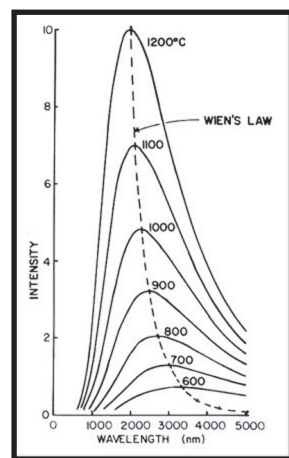

Figure 1.
And one value of writing this equation is, we can define an object that is a *perfect absorber of incident radiation*—a **blackbody**. Let me re-emphasize the *blackbody's* characteristics in different words—*radiation from any angle and at any wavelength is absorbed with zero reflection and zero transmission*. Of course, if absorption was all a *blackbody* did, its temperature would become infinite and that can't happen. So, while it's a perfect absorber, it is also a perfect emitter. It's a neat concept made even neater because it lets some smart people predict the energy emission spectrum (intensity vs wavelength) and show it depends *only* on the body's temperature. (see figure 1)
- Don't know the glass-type but all glasses transmit some IR. Fused silica, for example, is still transmitting out near 4000nm. Wien's law (see figure 1) shows much of the energy from a 600°C heater is emitted at wavelengths shorter than 4000nm and, therefore, slips right through silica without a backward glance.